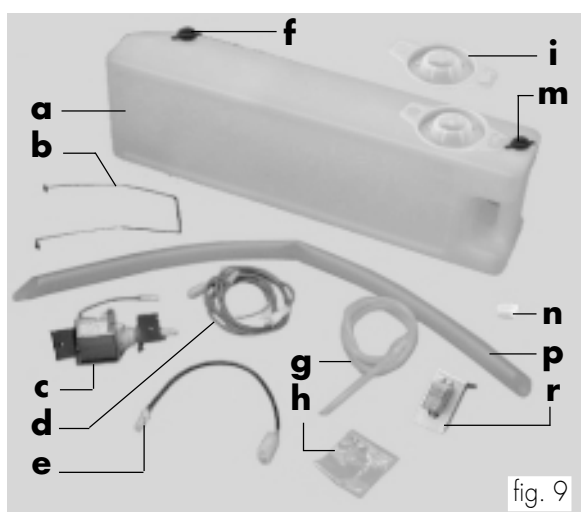

fig. 9
### Assembly kit (fig. 9)
- Tighten the pump by means of the two screws and two washers 4,3x16 (ref. **h**, fig. 9) to the bottom (fig. 17).
- Tighten the relay and support plate (ref. **r**, fig. 9) by using the screws previously taken from the inlet solenoid valve (fig. 16)
- Tighten the spring (ref. **b**, fig. 9) in the position shown in fig. 29 by using the two screws and two washers 4,3x12 (ref. **h**, fig. 9).
- Replace the pipe fastened to the drain channel (fig. 21) with the drain tube (ref. **p**, fig.9). Remove the cap (ref. **m**, fig. 9) from the tank. Insert the other end of the pipe in the discharge fluid tank (fig. 22). Make sure that the other tank holes are properly capped.
- Fit the cap on the tank. Place the tank inside the V.M. (fig. 24) by sliding the pipe inside the tank itself. Close the hole (ref. **v**, fig. 23) by means of the cap (ref. **n**, fig. 9).
Before removing the tank to empty it, close the pipe hole using the relevant cap (ref. **m**, fig. 9). This will help preventing any liquid spillage due to the surge effect.